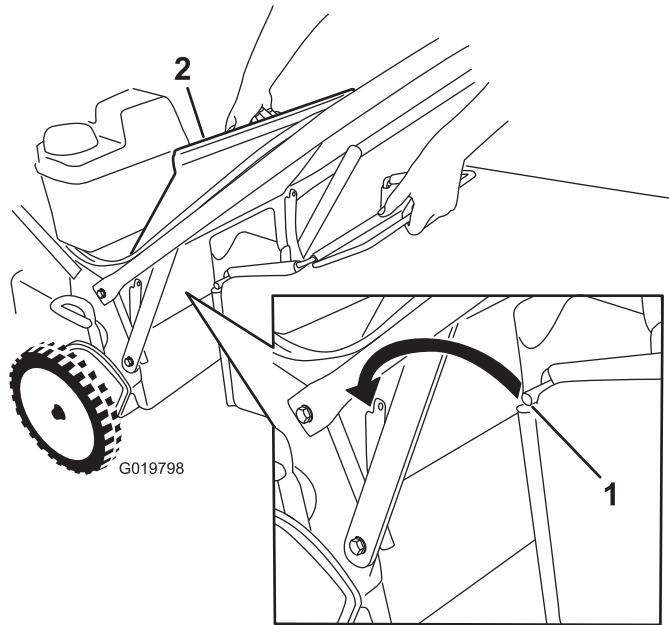

Figure 19
1. Raise and hold up the rear deflector (Figure 19).
3. Install the bag rod into the notches at the base of the handle, and rock the bag back and forth to ensure that the rod is seated at the bottom of both notches; refer to Figure 19.